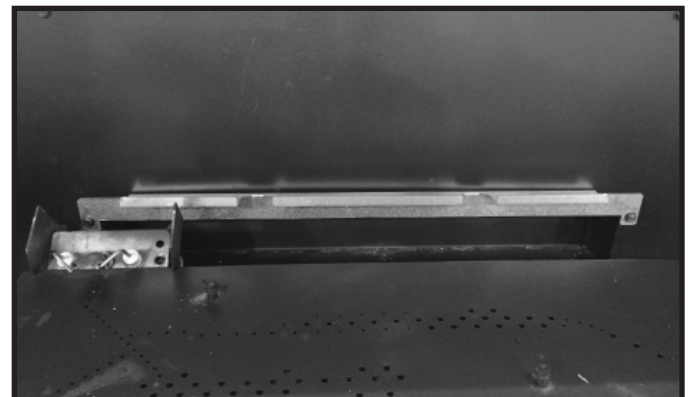

Figure 2. Rear Refractory Panel Bracket Installed
3. Install the rear refractory panel bracket by installing with two screws. Reattach pilot assembly to burner with one screw. Gently pull the pilot tube and pilot wires down, grasping them from beneath the firebox. See Figure 2.